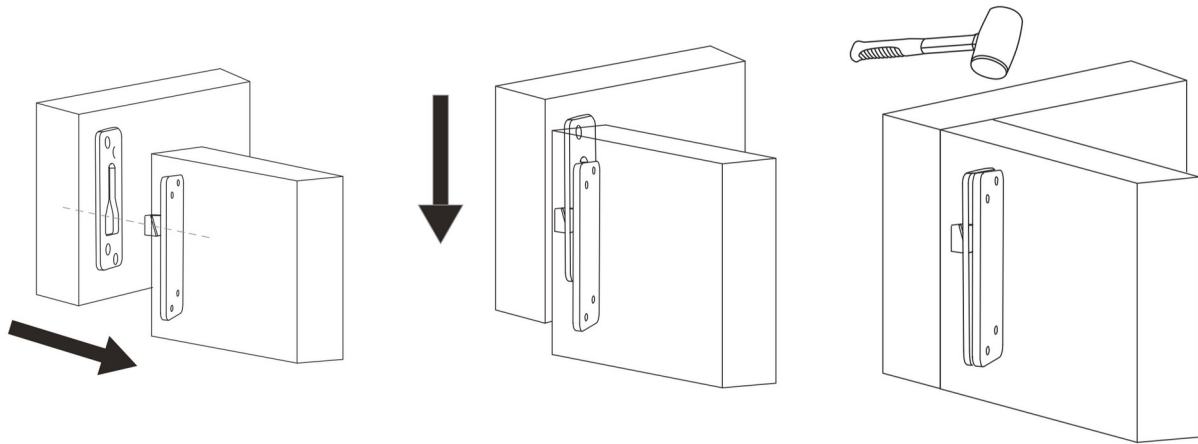

Figure 7. Concealed buckle engagement: slide the panel in, let it drop onto the catch, then tap it down with the rubber mallet.
- Position the Left Panel (A) against the left edge of the Back Panel, left as you face the front of the sauna, and connect the three concealed buckles on the Left Panel to the three concealed buckles on the Back Panel (Figure 6 and Figure 7).